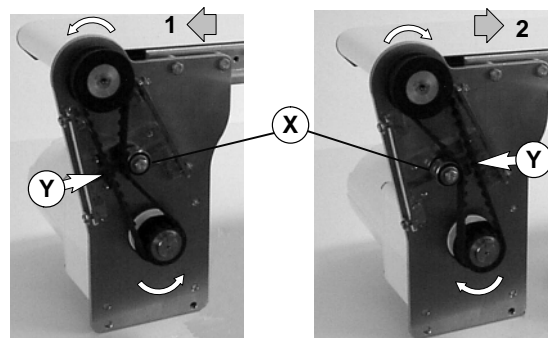

Figure 16
5. Depending on conveyor belt travel (direction 1 or 2), locate timing belt tensioner (X of Figure 16) as shown. Tension timing belt to obtain 3 mm deflection for 456 grams of force at timing belt mid-point (Y). Tighten tensioner screw to 10.4 Nm.